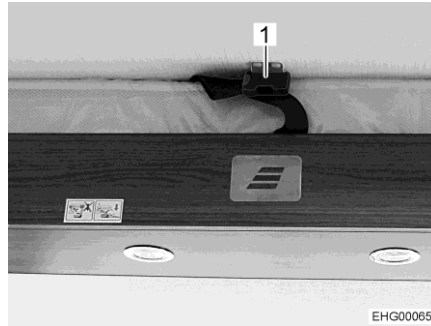

Fig. 101 Retaining belt
- Release the retaining belt (Fig. 101,1).
- Close retaining belt (Fig. 101,1).